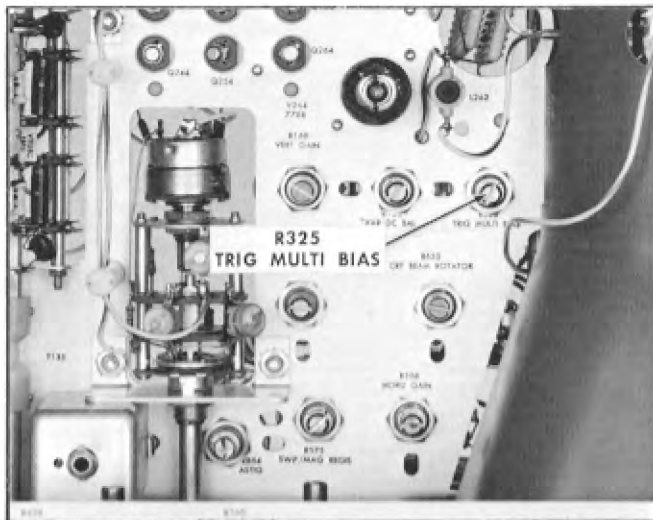

Fig. 6-14. Location of TRIG MULTI BIAS adjustment.
- g. Adjust by first rotating the TRIG MULTI BIAS control (R325; see Fig. 6-14) full counterclockwise. Then, rotate the control slowly clockwise until the display is synchronized; that is, a stationary display is obtained.